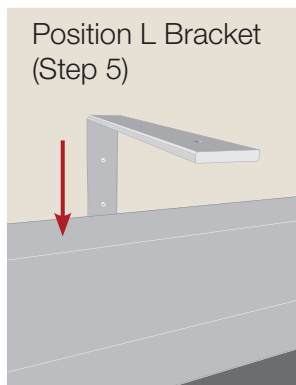

Fig. 4a
- After squaring the assembled cabinet frame with a framing square, fasten the #8 1" black panhead screws (10) through the crossmember endplates (7) and into the upright endplates (6) for all four corners of the cabinet frame.
- Install the cabinet Back Panels (5). Locate the letters on the back of the back panels and match with the letters on the assembled cabinet frame. Install back panels with whiteboard side down (toward front of cabinet). Fasten the back panels with the #8 1-3/4" silver panhead screws (11) into the pre-drilled holes on the cabinet frame.
- Insert Adjustable Feet (8) into the brackets at the bottom of the uprights and bottom crossmember. Turn all the way in before standing the unit up and then adjust as needed to level to your floor.
- With the help of one or more people as needed, lift the assembled cabinet and position against desired wall location. Level the unit to the floor by turning the adjustable feet (8) as needed. Once leveled, place wall mount "L" brackets (9) over the upper crossmember (2) and slide down behind the cabinet (Fig. 4a).